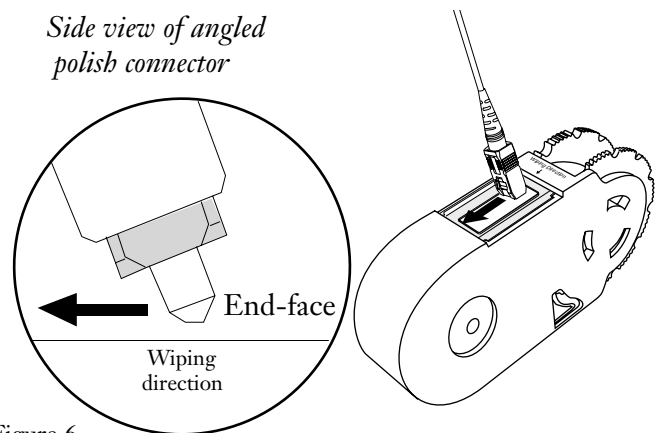

Figure 6
- b) Locate the angled end-face surface, and position it so that it is parallel to the surface of the cleaning tape as shown in Figure 6.